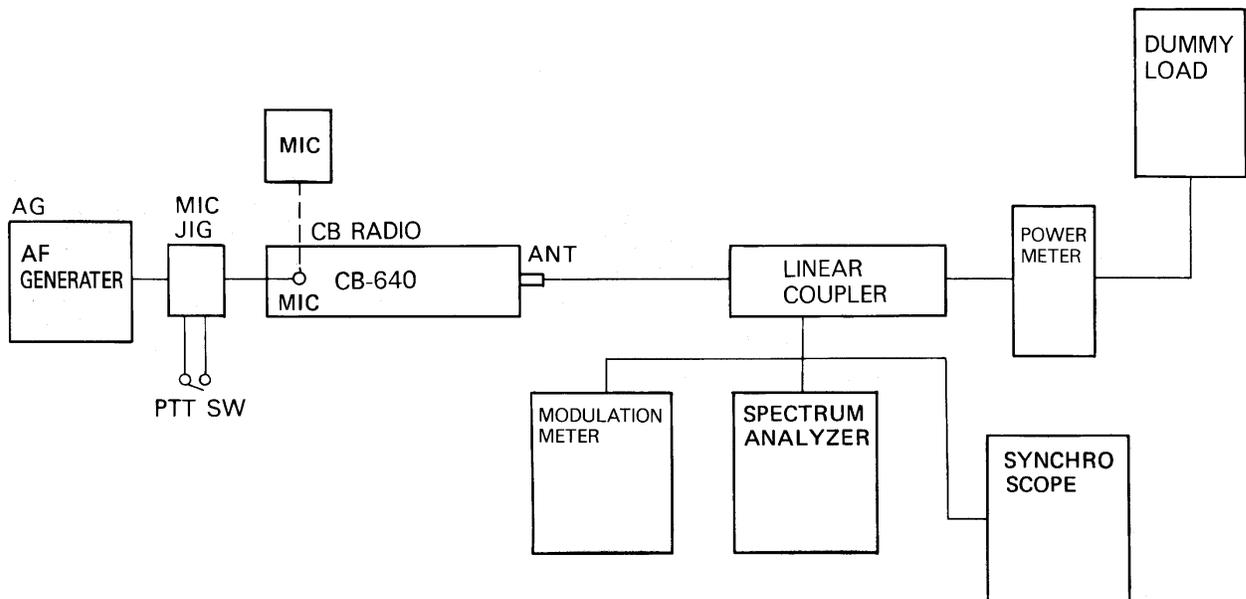

Figure 4. Interconnection for Adjusting the Transmitter Section.
For aligning the Transmitter Section, interconnect instruments with the CB-640 as illustrated in Figure 4 below.
1. Set up the measuring instruments as illustrated in Figure 4.
- a. For set-up, see Figure 4, the "Interconnection for Adjusting the Transmitter Section".